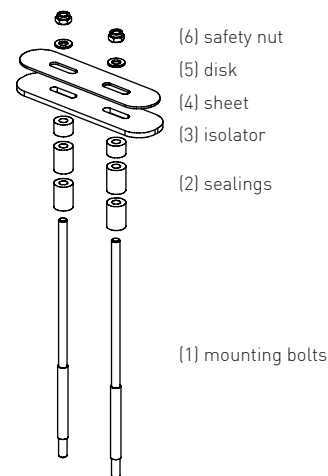

Fig. 21: assembly mounting bolts
Finally screw together the mounting bolts like illustrated in fig. 21 cutting them in the boat interior as necessary. Apply seals (2) according to the hull thickness (note: hull thickness + 25 %).